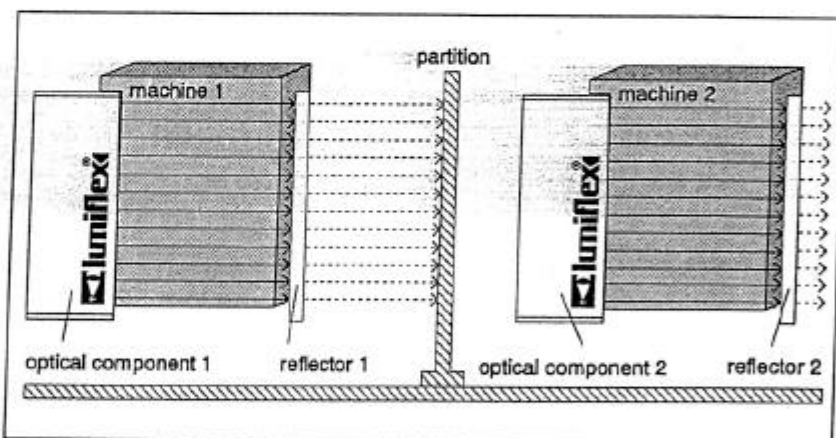

Figure 7-7 Preventing interference by means of a partition when the optical components are mounted in same direction
- 7.2.1 **Mounting the Optical Component** Three 9 mm drill holes on the side parts of the REFLEX optical component serve for mounting (Figure 7-7).